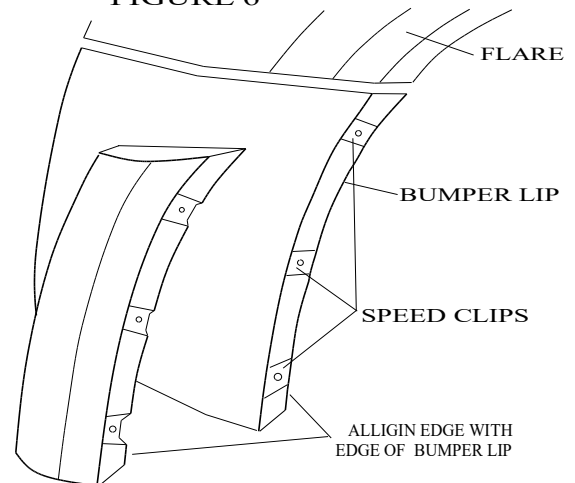

FIGURE 7
- (D) Slide three supplied speed clips on bumper lip over the drilled holes. The threaded side should be on back side of lip. **See Figure 7.**